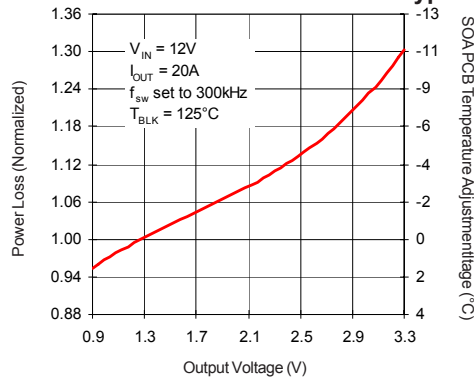

Fig 3. Normalized Power Loss vs V_{OUT}
To make adjustments to the power loss curves in Fig. 1, multiply the normalized value obtained from the curves in Figs. 3, or 4 by the value indicated on the power loss curve in Fig. 1. If multiple adjustments are required, multiply all of the normalized values together, then multiply that product by the value indicated on the power loss curve in Fig. 1. The resulting product is the final power loss based on all factors.
To make adjustments to the SOA curve in Fig. 2, determine the maximum allowed PCB temperature in Fig. 2 at the required operating current. Then, add the correction temperature from the normalized curves in Figs. 3 or 4 to find the final maximum allowable PCB temperature. When multiple adjustments are required, add all of the temperatures together, then add the sum to the PCB temperature indicated on the SOA graph to determine the final maximum allowable PCB temperature based on all factors.
- (Fig. 3) Normalized power loss for output voltage ≈ 1.14
- (Fig. 3) Normalized SOA PCB Temperature for output voltage $\approx -4.5^\circ\text{C}$